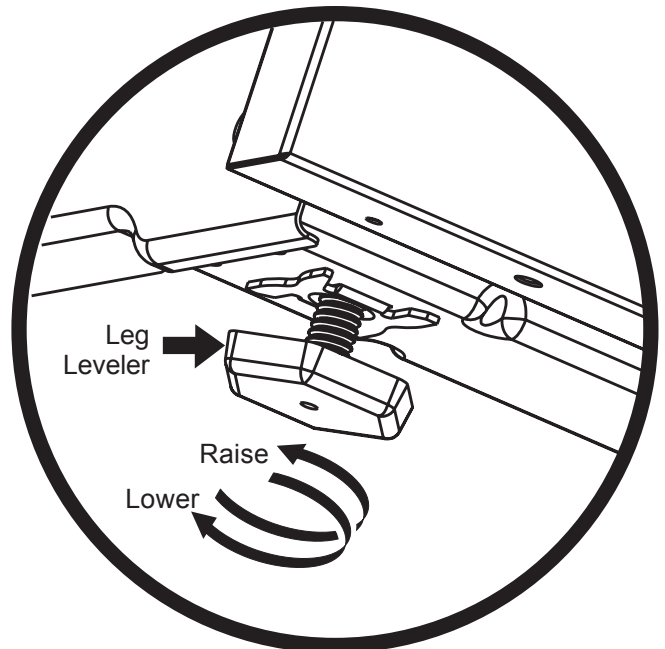

Figure 13: Adjusting appliance height
3. Level the range, if necessary, by adjusting the four leg levelers with a wrench (Figure 13).